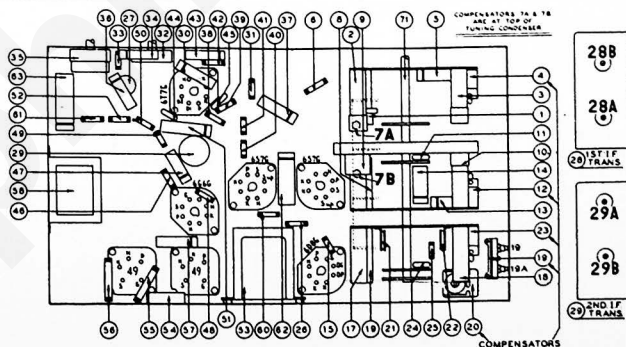

Fig. 1—Part Locations—Underside of Chassis
- (1) Signal Generator; Philco Model 077 A.C. operated or Model 177 Battery operated.
- (2) Output Meter, Philco Model 027 Circuit Tester.
- (3) Philco Fiber Handle Screw Driver, Part No. 27-7059, and Fiber Wrench, Part No. 3164.
**OUTPUT METER:** The Philco 027 Output Meter is connected to the plate and cathode terminals of one of the type 49 tubes and adjusted for the 0 to 30 V.A.C. scale. After connecting the output meter, adjust the compensators in the order as shown in the tabulation below. Locations of the compensators are shown in Fig. 1. If the output meter pointer goes off scale when adjusting the compensators, reduce the strength of the signal from the generator.